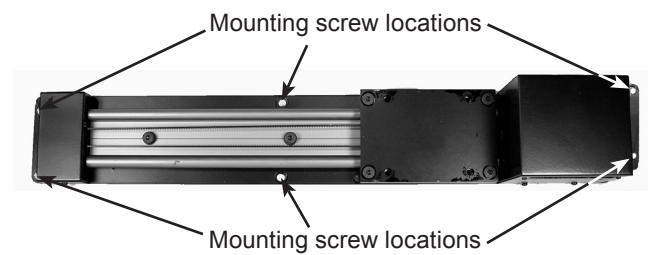

Figure 5
2. Orient the LN9101M Sled, Plate 4 and the Top Adjustment Plate as illustrated in figure 4C. Secure it using six 1/4-28x1/2 machine screws and tighten them with the supplied Hex Wrench. Refer to figures 5 and 6.